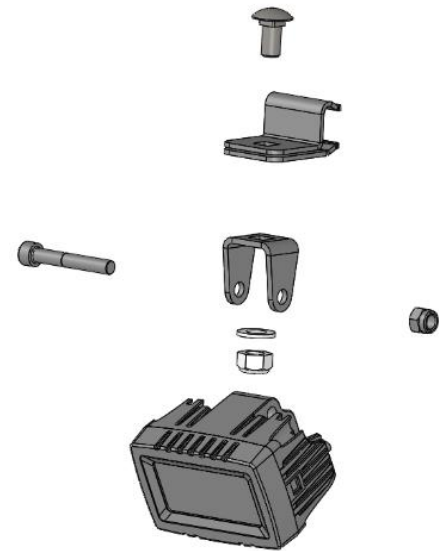

Figure 1
1. Layout all components as shown *Figure 1* and confirm all components are included.
4. Once you have selected the mounting location and configuration, loosely assemble as per *Figure 1*, noting the M8 coach bolt must be inserted before the M6 captive head bolt.